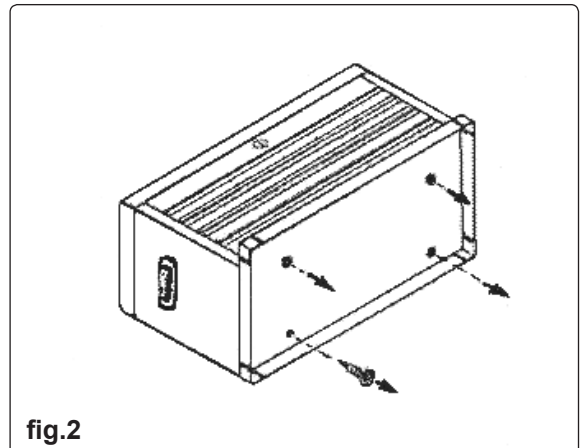

fig.2
3.2 Remove the screws from the base, (fig.2) and separate from the topchest, discard the screws.